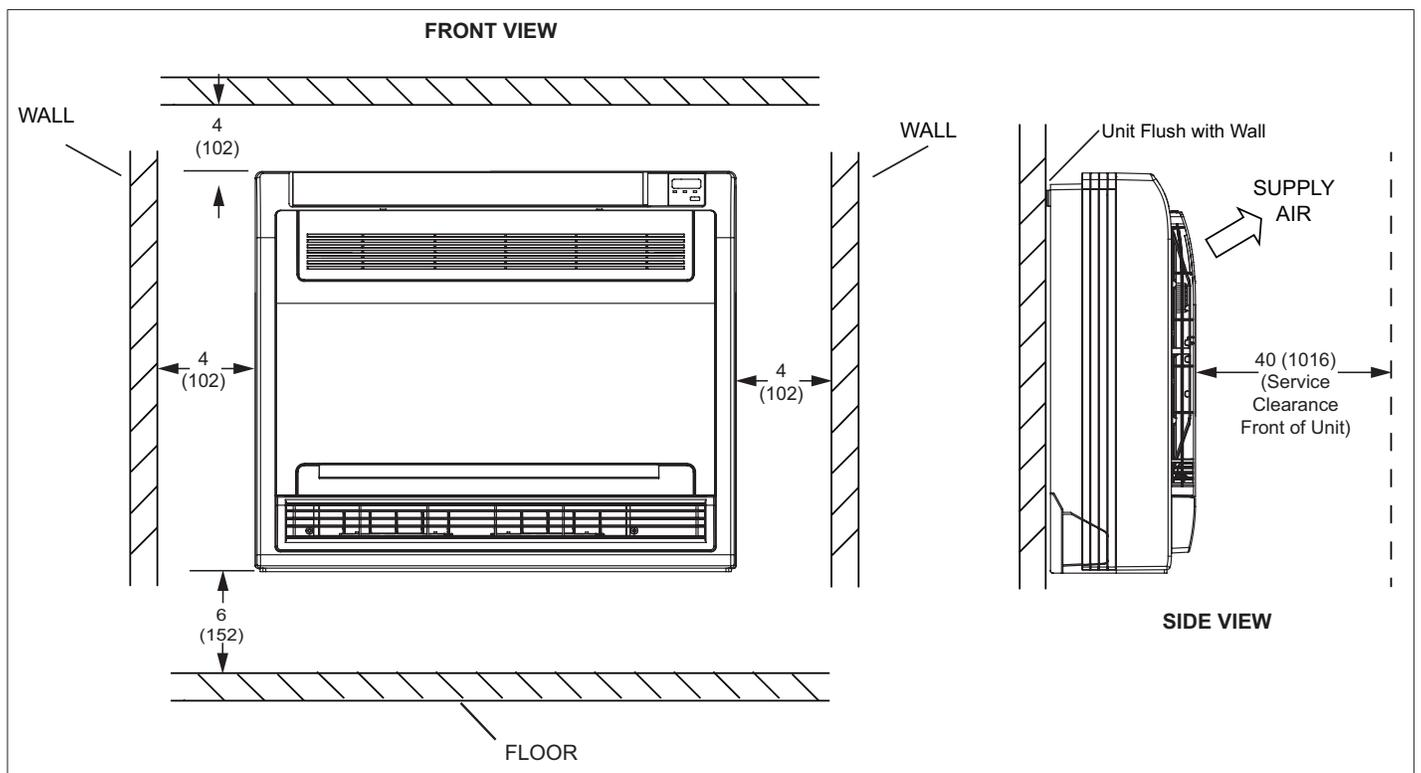

Figure 6. Indoor Unit Clearances - Inches (mm)
- Locate a suitable position within the space where maintenance access and supply air will not be restricted or affected by obstacles. See "Figure 6. Indoor Unit Clearances - Inches (mm)" on page 7 for minimum clearances.